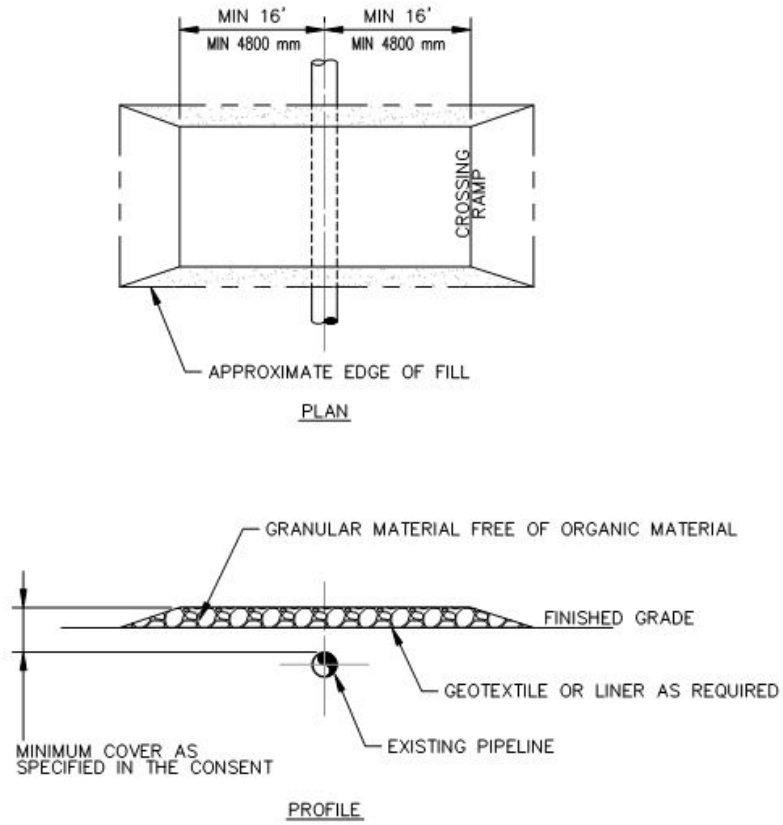

Figure 5: Crossing Ramp – Typical Drawing
- crossing ramps (see Figure 5: Crossing Ramp – Typical Drawing)